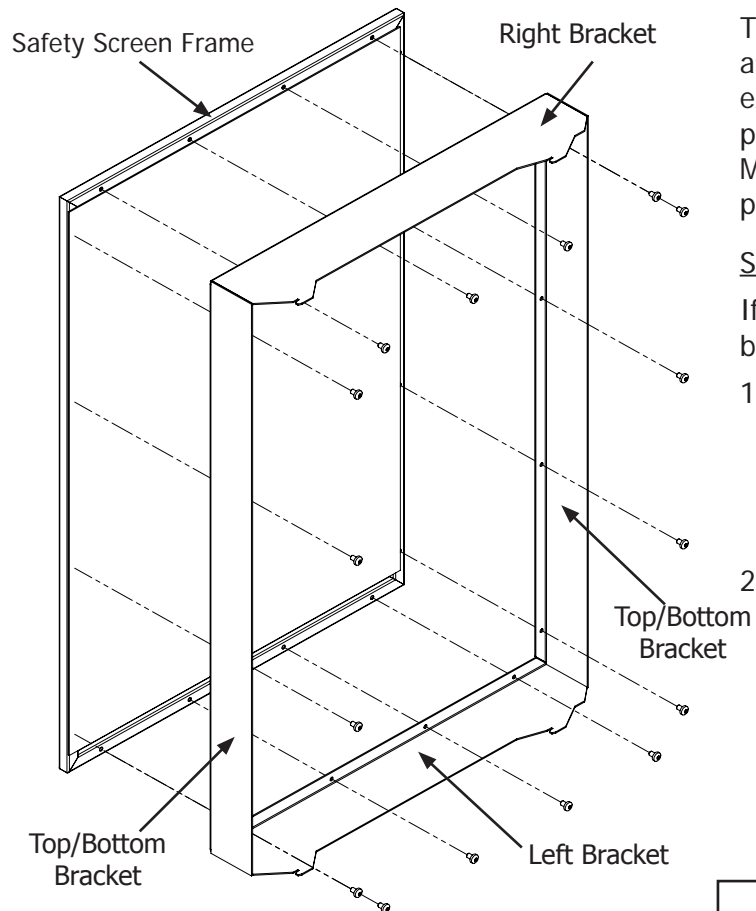

Figure 64: Installing Safety Screen Mounts.
1. Attach the left, right, top/bottom brackets onto the safety screen using a T20 screwdriver and the supplied sixteen (16) #8 T20 screws (see Figure 64). Do not over-tighten the screws, doing so could cause them to strip out of the screen frame.